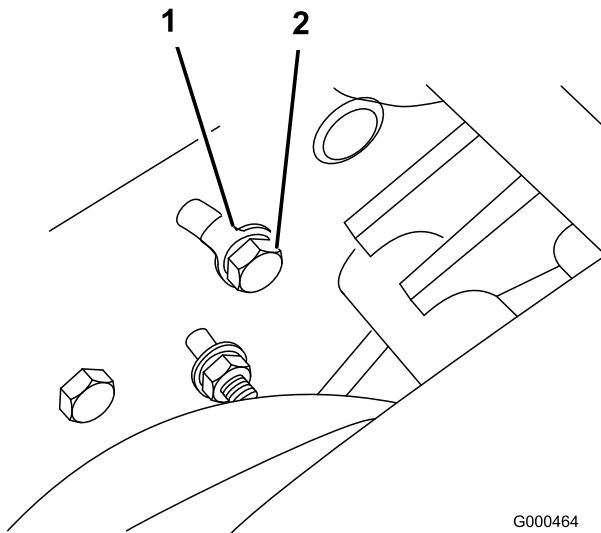

Figure 40
A. On back side of side plate, loosen the bolt securing the idler bracket to the side plate (Figure 40).